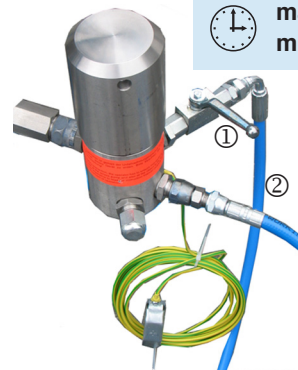

fig. 5.1
- Hold the drain hose (Fig 5.1, Pos. 2) into empty container and secure it against slipping.
- Open the relief tap on the high pressure filter (Fig 5.1, Pos. 1).
- Open the main air supply tap. (Fig 5.1). Adjust the air regulator to a maximum of 2 bar (30 psi) by slowly turning the regulating screw to the right.
- Close the relief tap (Fig. 5.1, Pos. 1).